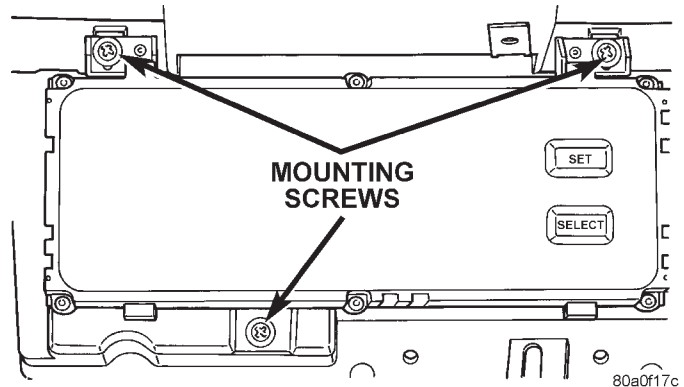

Fig. 13 Graphic Display Module and Vehicle Information Center Remove/Install
(1) Remove the glove box module from the instrument panel. See Glove Box Module in this group for the procedures.
(2) Remove the three screws that secure the Graphic Display Module (GDM) or Vehicle Information Center (VIC) to the instrument panel armature (Fig. 13).